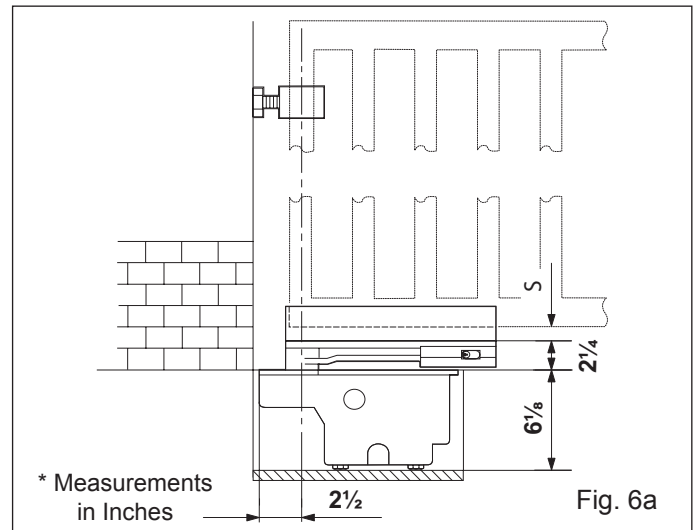

Fig. 6a
- Proper minimum clearance between bottom edge of gate and ground. See Fig. 6a (where 'S' = thickness of guide bracket)
2. Place the foundation box in the hole, refer to the dimensions provided in Figs. 6a and 6b.
The center of the pivot on the foundation box must be perfectly aligned with the leaf's axis of swing (Figs 6a and 6b).